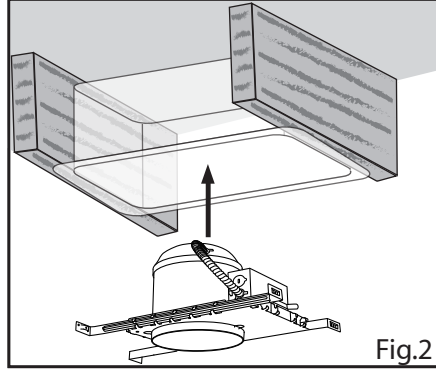

Fig.2
3. Pierce a hole in vapor barrier and pass electrical wire through then seal barrier to wire with TUCK tape (Vapor barrier approved tape). (fig.2)